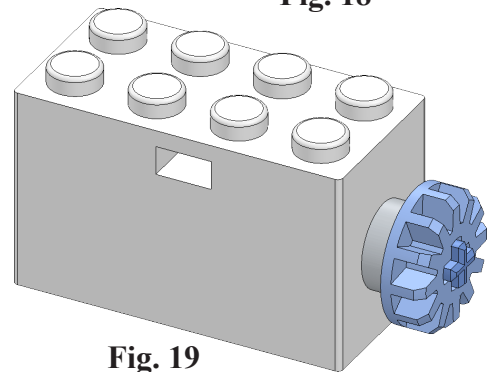

Fig. 19
Step 2. Click **Distance**  in Mate pop-up, Fig. 18. Set **distance 7.1** and press ENTER. The Gear should be positioned on Axle, Fig. 19. If positioned in opposite direction, click **Flip Dimension**  in the Mate pop-up. Click **Add/Finish Mate**  to add Distance mate.